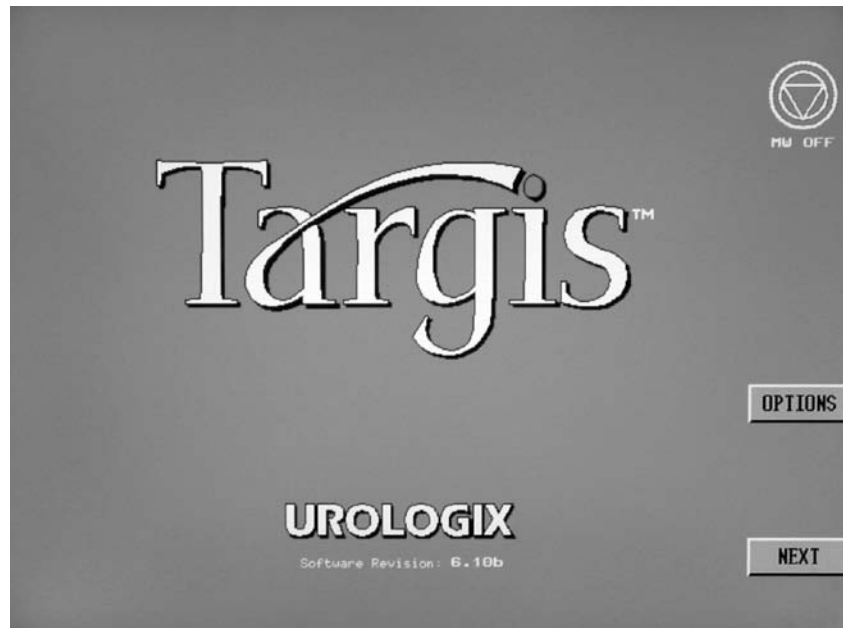

Figure 2-2: Main Menu Screen
2. After the Control Unit has been operating for at least 5 minutes, press the MW OFF soft key to verify its operation and advance to the Main Menu Screen (*figure 2-2*).
2. Press the NEXT soft key (*figure 2-2*) on the monitor to advance to the Patient Data Display Screen (*figure 2-3*).
- Date: [Displays Control Unit date in the format: dd-mmm-yyyy, date can be changed using the OPTIONS functions on Main Menu Screen (figure 2-2)]
- Time: [Displays Control Unit time in the format: hh:mm:ss, time can be changed using the OPTIONS functions on Main Menu Screen (figure 2-2)]